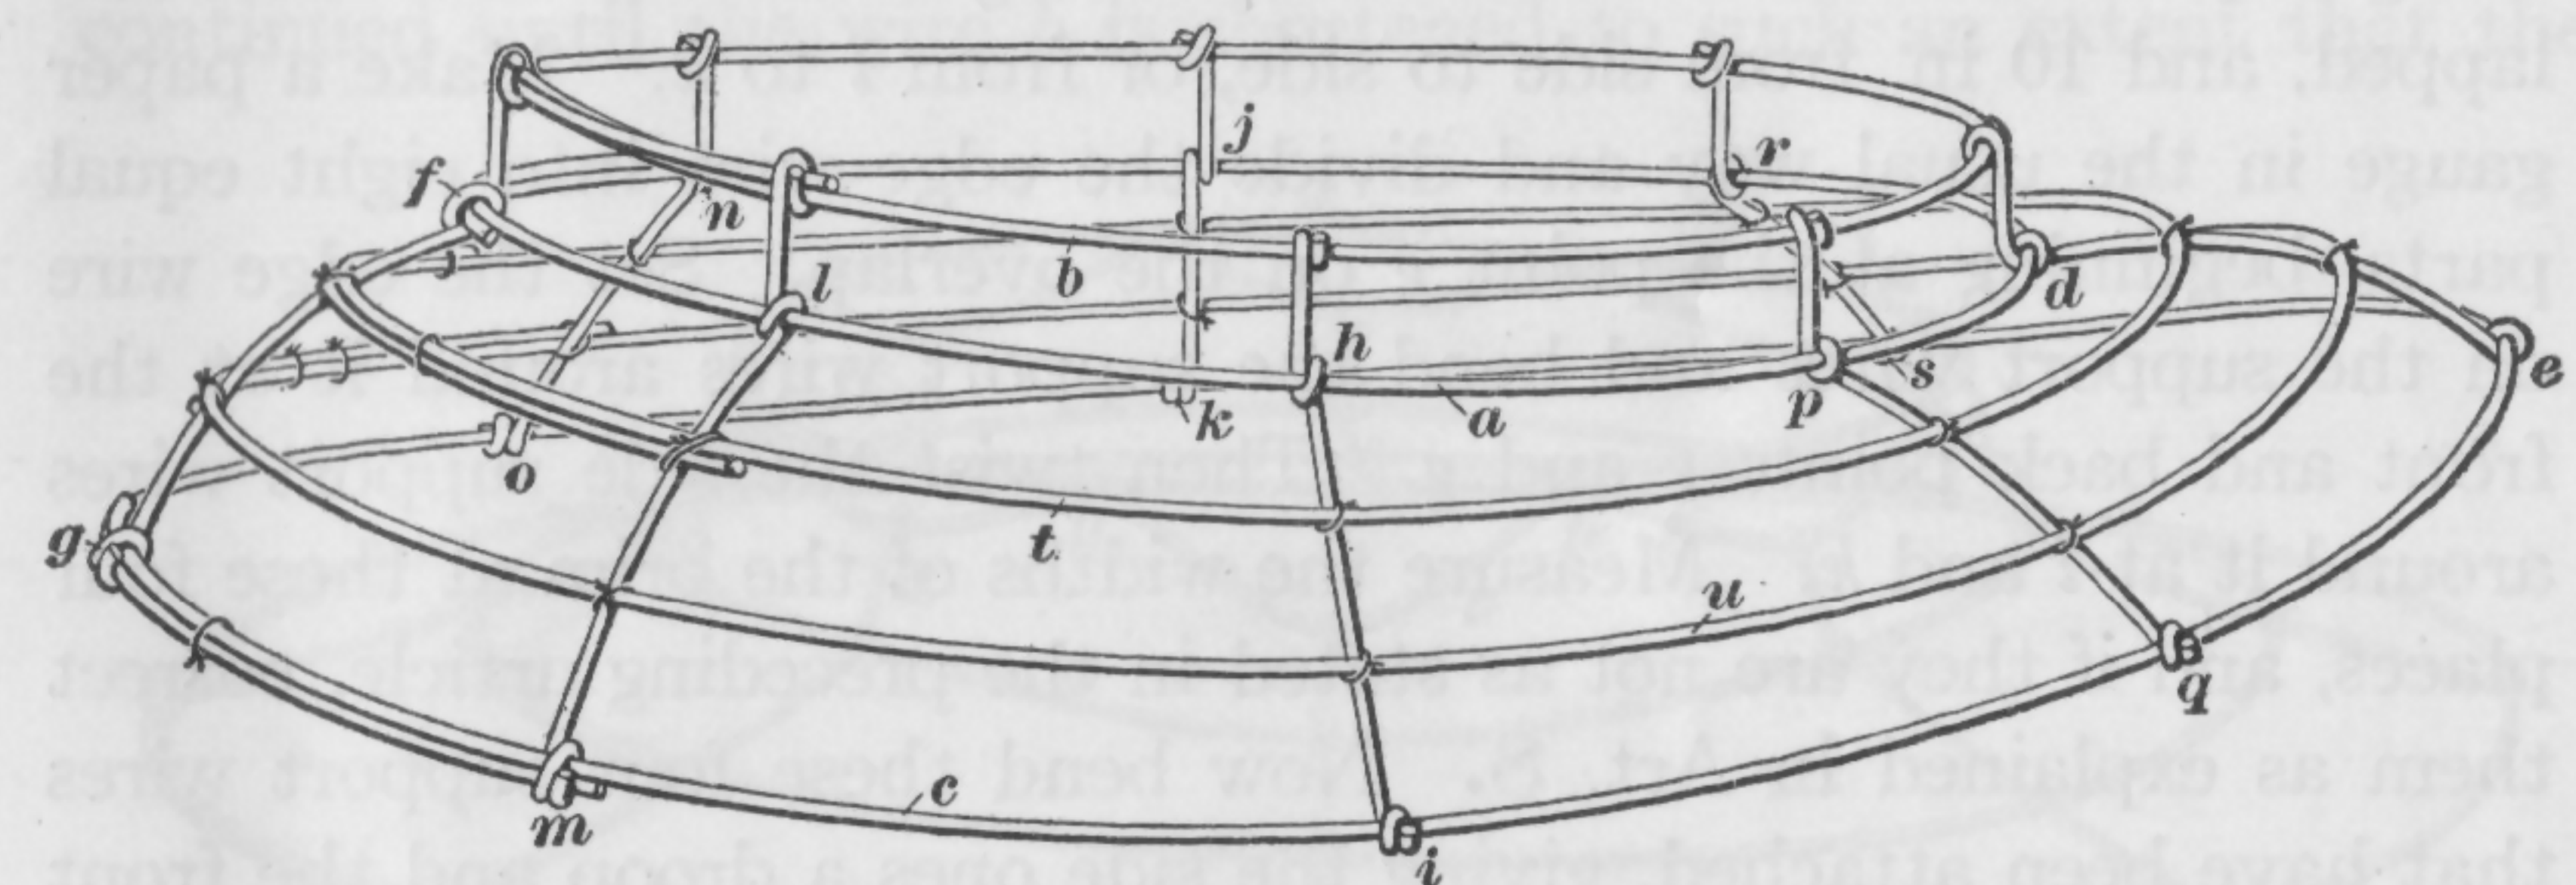

FIG. 9
13. Another form of brim that is very similar in construction to the mushroom droop is the **poke brim** shown in Fig. 9. The difference between the two is that the droop of the poke brim is not the same at all points, but changes from a slight droop at the front to a rather pronounced one at the back. Moreover, the support wires are
14. To make the poke brim, first construct the 24-in. head-size wire *a*, Fig. 9, and the top brace wire *b* just like it, and then stretch them to ovals  $8\frac{1}{2}$  in. by 7 in. Mark off each into eight equal parts and attach the eight support wires to the top brace wire *b* at these points.
15. Take the edge wire  $c$ , Fig. 9, and stretch it to an oval measuring  $12\frac{1}{2}$  in. from the front  $e$  to the back  $g$  where the ends are overlapped, and 10 in. from side to side, or from  $i$  to  $k$ . Make a paper gauge in the usual way and divide the edge wire into eight equal parts, beginning at the point  $g$  on the overlap. Set the edge wire on the support wires and bend the support wires around it at the front and back points  $e$  and  $g$ . Then twist the side support wires around it at  $i$  and  $k$ . Measure the widths of the brim at these four places, and if they are not as stated in the preceding article, correct them as explained in Art. 8. Now bend these four support wires that have been attached, giving the side ones a droop and the front and back ones the form shown in the illustration. Then attach the other four support wires at the marked points  $m$ ,  $o$ ,  $s$ , and  $q$ . Cut off the ends of the eight support wires close to the edge wire and press all twists down tight. Then give the corresponding support wires at the right and left sides the same bend, so that the two sides of the brim will be alike. Finally, add the two brace wires  $t$  and  $u$ , spacing them equally on the support wires, by making gauges and dividing the several wires into three equal parts, tying them with tie wires at the points thus marked. This brim can be made with 6 yd. of brace wire.